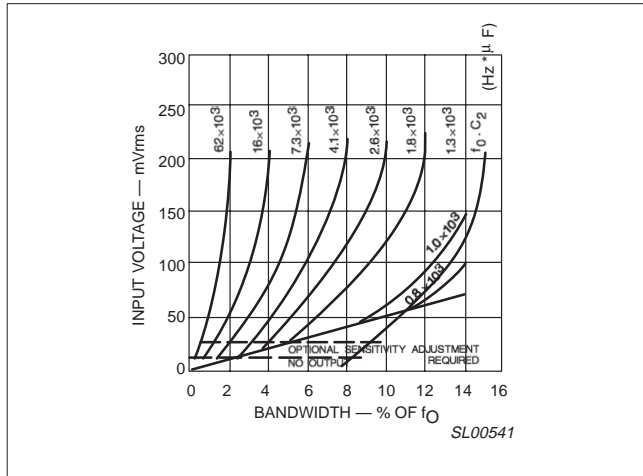

Figure 4. Bandwidth vs. input signal amplitude
2. Select the low-pass capacitor,  $C_2$ , by referring to Figure 4, 'Bandwidth vs. input signal amplitude'. If the input amplitude variation is known, the appropriate value of  $f_o \cdot C_2$  necessary to give the desired bandwidth may be found. Conversely, an area of operation may be selected on this graph and the input level and  $C_2$  may be adjusted accordingly. For example, constant bandwidth operation requires that input amplitude be above 200mVRMS. The bandwidth, as noted on the graph, is then controlled solely by the  $f_o \cdot C_2$  product ( $f_o$  (Hz),  $C_2(\mu F)$ ).